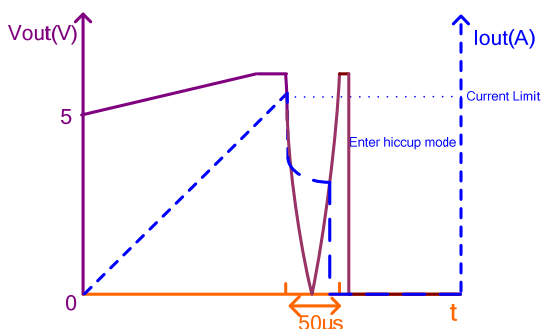

Figure 5: Over-Current Protection
After the soft start finishes, if there is an output under-voltage ($V_{USB} < 4V$) that lasts longer than 50 μ s, the MPQ4475-E enters hiccup mode (see Figure 5). This prevents an abnormal thermal rise during the constant resistor (CR) load over-current case.